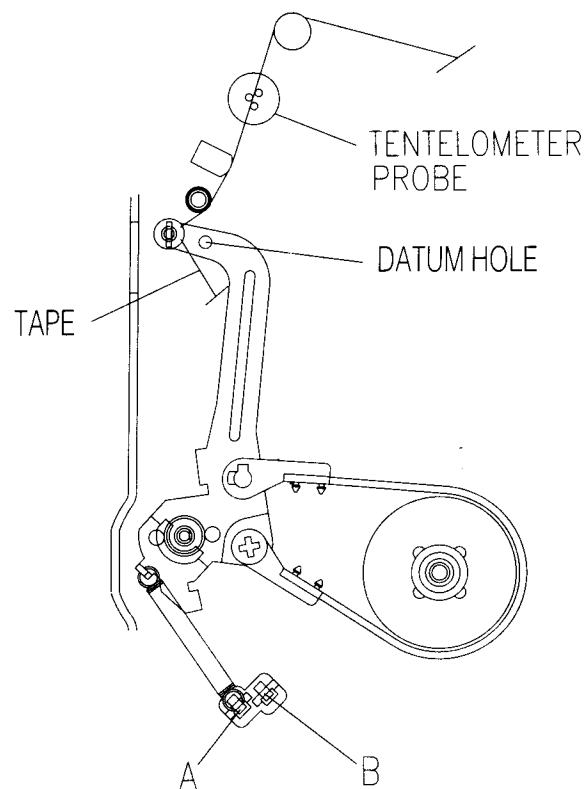

Fig.4-6 BACK TENSION MEASUREMENT
## 4-2. BACK TENSION MEASUREMENT (See Fig.4-6~4-7)
- Bring the TENTELOMETER into contact with the TAPE (Fig.4-6) and measure the BACK TENSION. The measuring result should be between 25 and 33 grams.